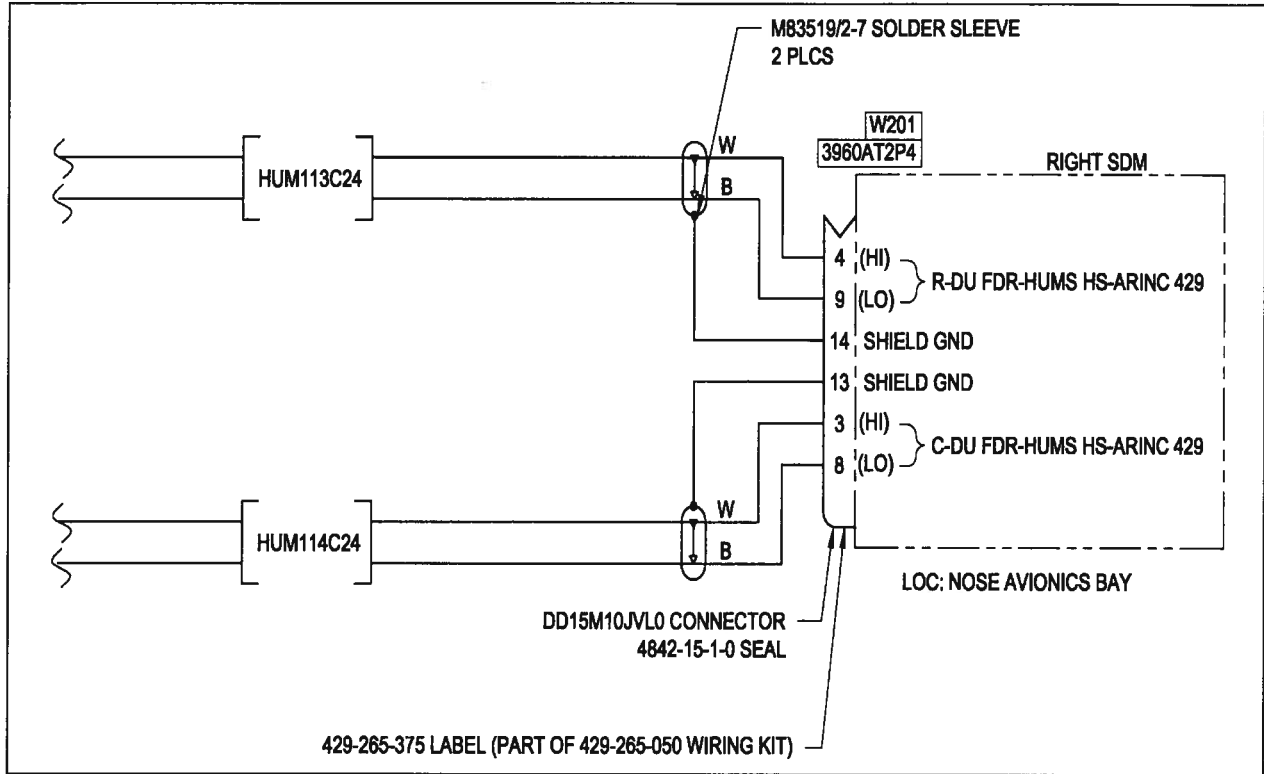

FIGURE 1 – CURRENT HUMS INSTALLATION – RIGHT SDM
These instructions are provided to accomplish installation of CV/FDR with previously installed HUMS kit. The current HUMS installation is shown in Figure 1.
- 2.2 Locate Right SDM Connector (3960AT2P4) in the Nose Avionics Bay, as shown in Figure 1.
- 2.3 Locate wires HUM113C24 and HUM114C24, as shown in Figure 1.
- 2.4 Depin Connector for Pins shown in Figure 1.